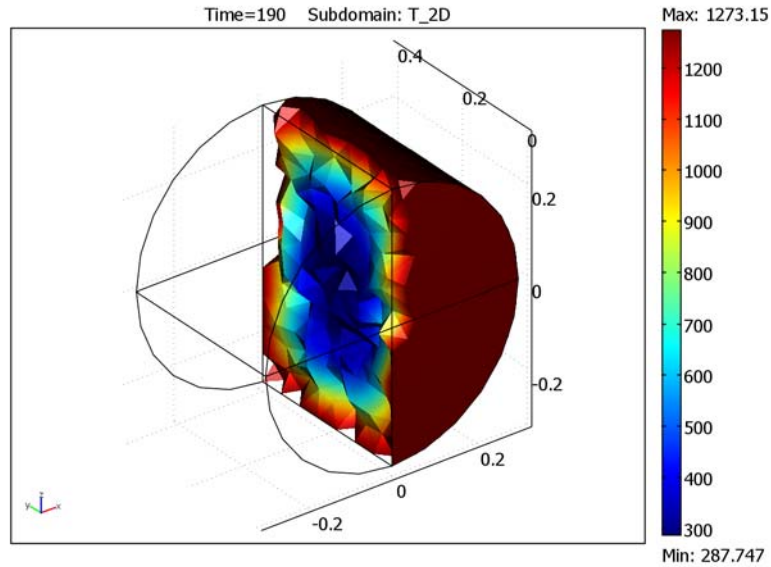

Figure 7-7: Postprocessing of the temperature in the full 3D geometry.
As an additional postprocessing step, map the axisymmetric solution to 3D using an extrusion coupling variable to show the solution for the entire cylinder (see Figure 7-7).
**15** Click **OK** to generate Figure 7-7 on page 198. To reproduce that plot, also click the **Headlight** button on the Camera toolbar.